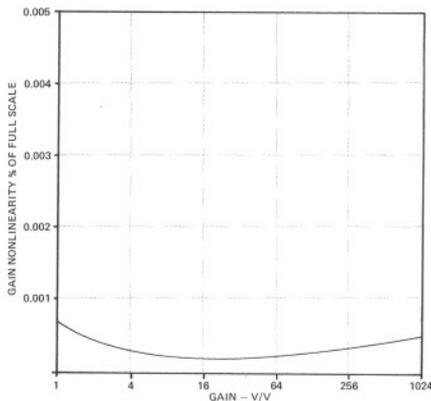

Figure 12. Gain Nonlinearity vs. Gain
**Gain Nonlinearity:** Nonlinearity is specified as a % of 10V full scale; e.g., 0.2mV RTO for 0.002%. Figure 12 shows the typical nonlinearity vs. gain.